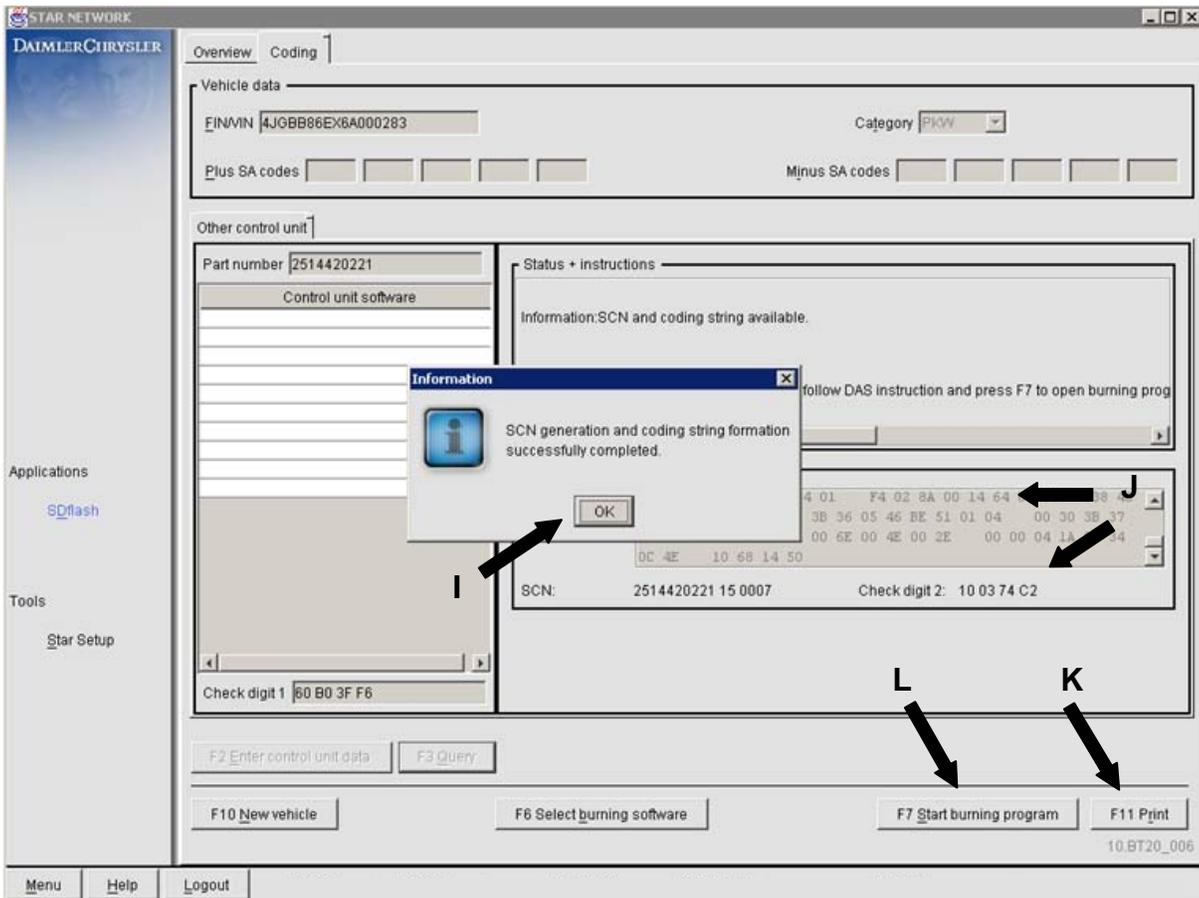

Figure 8
4. Display SCN Coding Information. (Figure 8)
- (I) Click the 'OK' button.
- (J) SCN Coding Information will then be displayed.